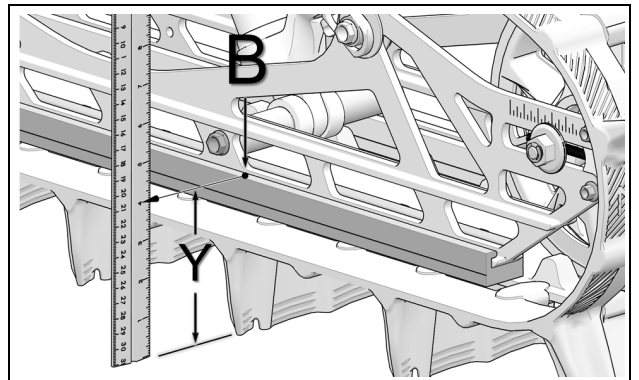

Figure 39
- At the **rear** measurement point (B), measure distance (Y) between the top of the rail slide and the ground. See Figure 39.